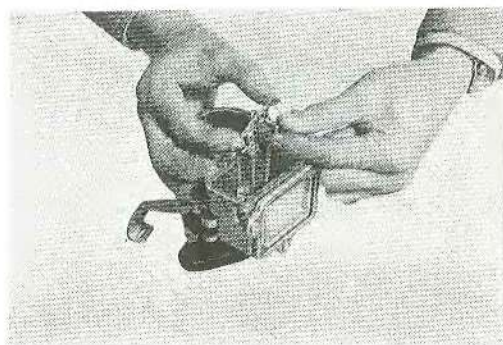

Figure 139
- (13) Assemble on metering rod to metering rod adjusting piece.
(14) Screw on counter arm to operating block with counter arm supporting screw (Fig. 139).